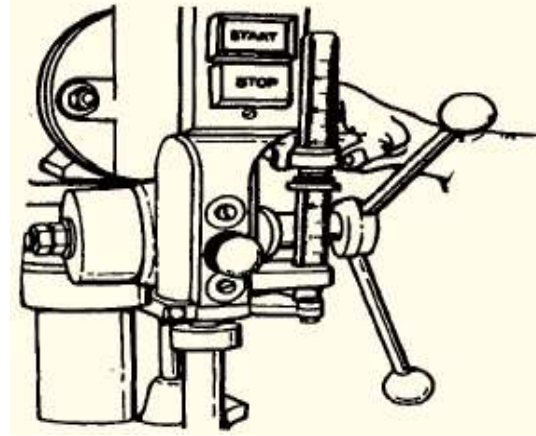

Figure 4-35. Depth stop mechanism.
**Stop Device:** The depth stop mechanism on the drilling machine (Figure 4-35) should be used whenever drilling to a desired depth, and to prevent the twist drill from traveling too far after cutting through the workpiece. The depth stop is designed to be used whenever a number of holes of the same depth are to be drilled, or when drilling holes deep into the workpiece (blind holes).